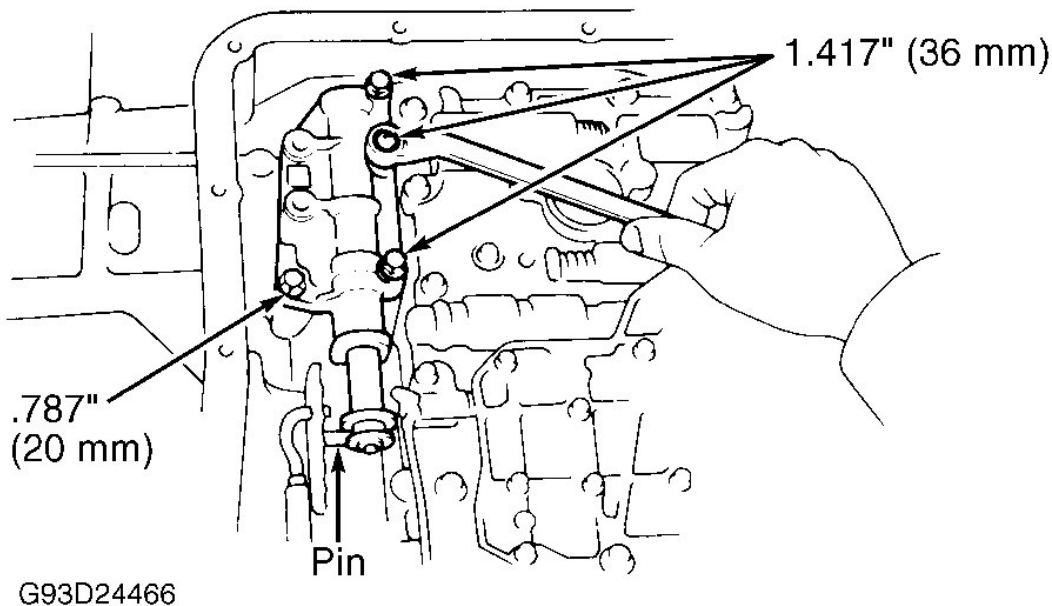
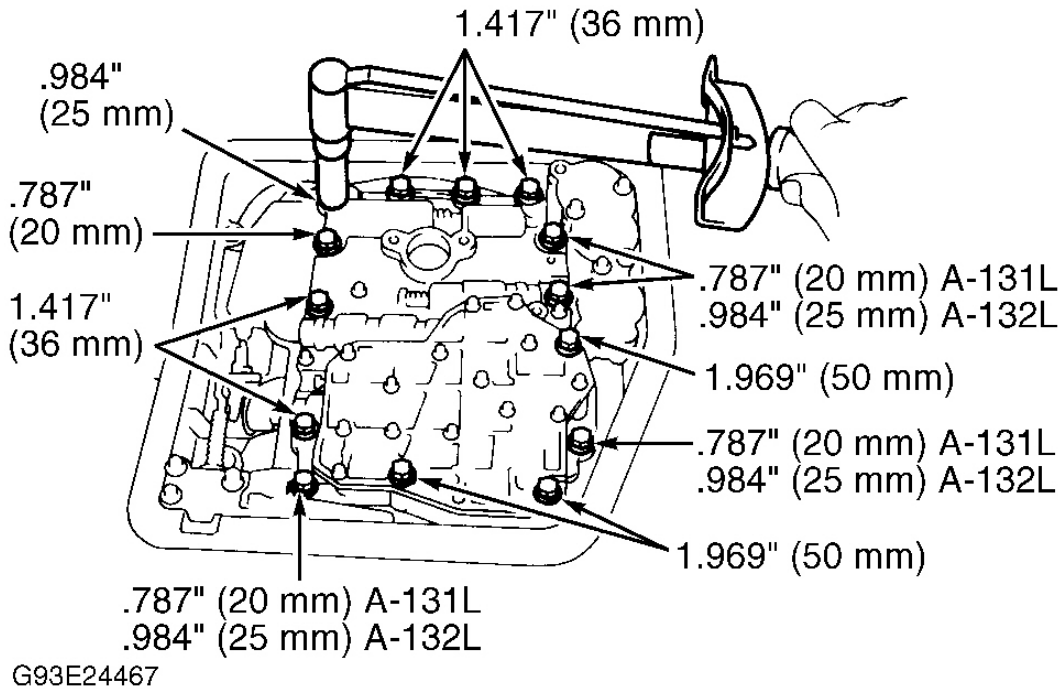

Fig. 6: Identifying Manual Valve Body Bolts
Fig. 7: Identifying Control Valve Assembly Bolts
2. Remove detent spring. Remove manual valve and manual valve body. See **Fig. 6** . Note bolt length and location. Remove control valve assembly bolts. See **Fig. 7** . Remove throttle cable. Remove control valve assembly. Remove governor oil strainer. Remove governor apply gasket. See **Fig. 11** .
1. Install governor apply gasket. Install governor oil strainer. Hold valve body cam downward. Install throttle cable in slot. Install control valve assembly. Ensure kickdown switch wire is not under valve assembly. Install control valve assembly bolts finger tight. Ensure bolts are installed correctly. See **Fig. 7** . Tighten bolts to 89 INCH lbs. (10 N.m).